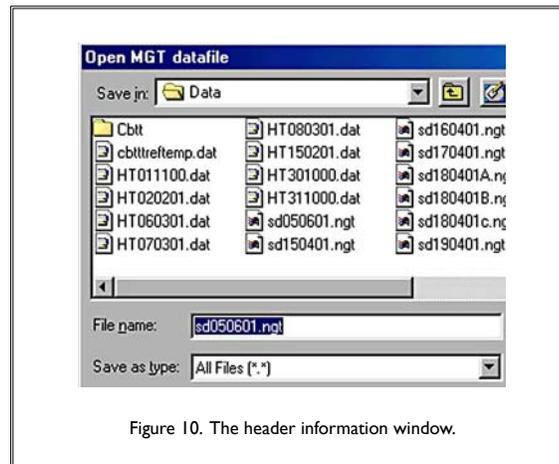

Figure 10. The header information window.
- Start the application by pressing the arrow in the upper left-hand corner of the application window. A small window, labeled “Header,” will pop up. Fill in the required fields as necessary. An example is shown below in Figure 10.